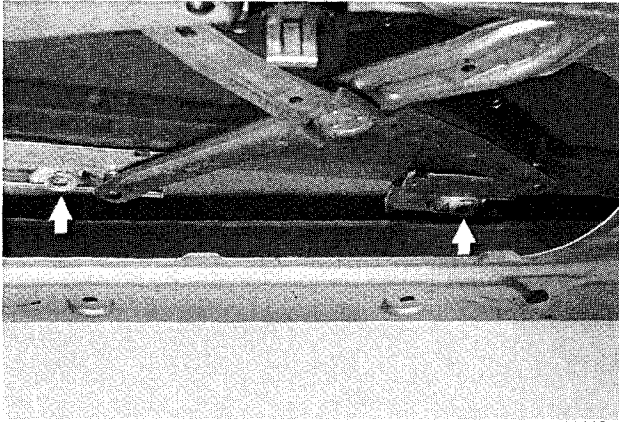

Fig. 3. Window lifting arms shown removed from slides (arrows).
7. While supporting window glass, pry window lifting arms out of left and right slides. See Fig. 3.
5. Pry lifting arm out of slide. Refer to Fig. 3.